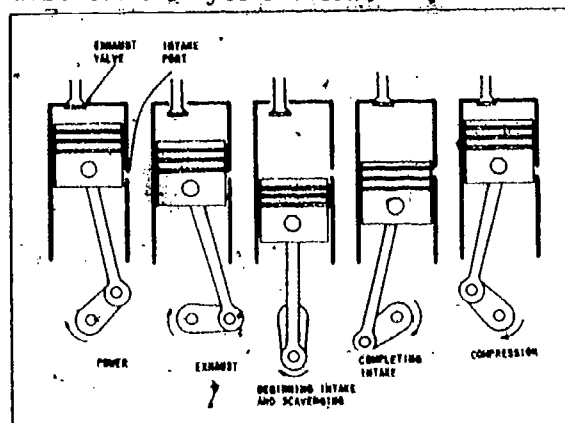

Fig 2-9. Two-stroke cycle.
- (2) **Two-stroke cycle.** The basic principles stated in paragraph 2-2b also apply to the 2-stroke-cycle engine; however, the chain of events is completed in one up and one down movement of the piston. The 2-stroke cycle can best be understood by comparing it to the 4-stroke cycle and explaining the scavenging system.
- (a) **Comparison (fig 2-9).** On the 4-stroke-cycle engine, mushroom-type poppet valves are used to open and close intake and exhaust ports. On a 2-stroke-cycle engine, the valves may or may not be used, but for simplicity, intake ports and exhaust valves are used here to describe the cycle below.